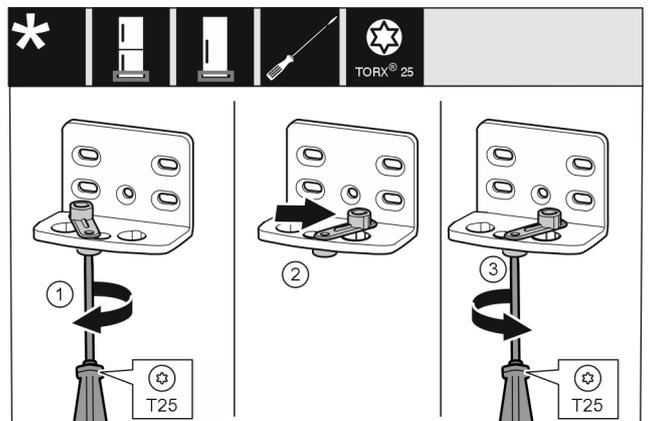

Fig. 11
- ▶ Loosen the screw using a T25 screwdriver. Fig. 11 (1)
- ▶ Lift the door closing aid and turn it 90° to the right in the hole. Fig. 11 (2)
- ▶ Tighten the screw using a T25 screwdriver. Fig. 11 (3)